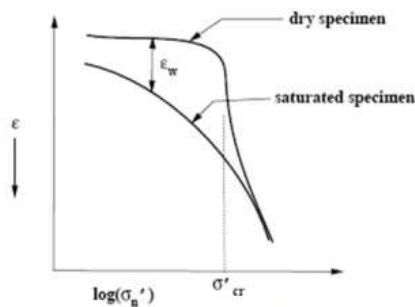

Fig. 4. Results of a double-oedometer test on a hydro-collapsible soil.
- In this test, two “identical” soil specimens are placed in oedometers and subjected to confined compression tests. One of the specimens is tested at natural insitu water content, which is generally quite low. The other specimen is fully saturated before the test begins, and then subjected to an identical compression test. Two stress versus strain curves will be generated, one for the “dry” soil and one for the saturated soil. If the soil is strongly hydro collapsible, the stress-strain response for the saturated curve will be significantly different than that of the dry soil (Figure 4). For a given applied stress σ'_n , the strain offset ϵ_w between the two curves is called the hydro-collapse strain for that stress level. Generally, for the dry specimen, there will be a critical stress σ'_{cr} at which the loose structure breaks down and beyond which the two curves converge.